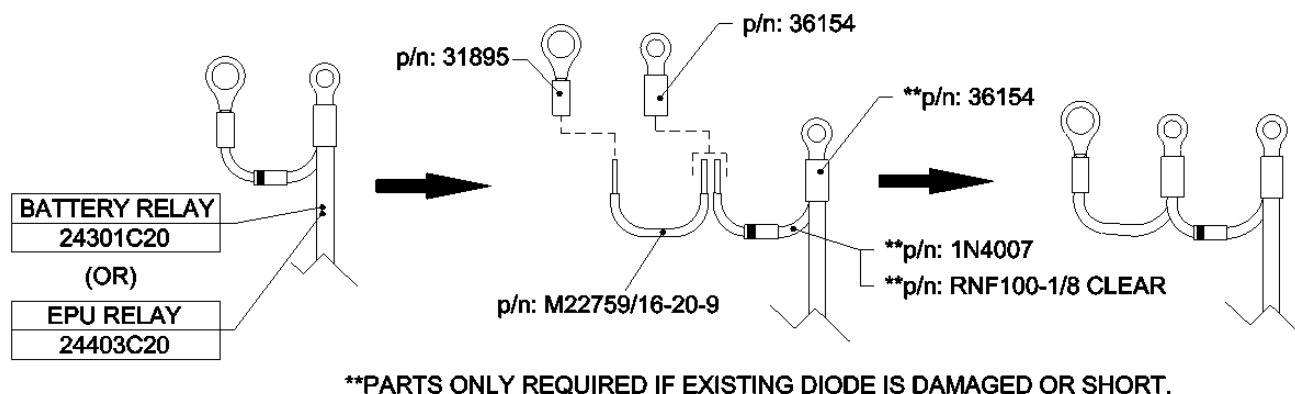

Figure 2: Relay Wire Modification
10.1.2 Rework the battery and/or EPU relay wires as shown in Figure 2.